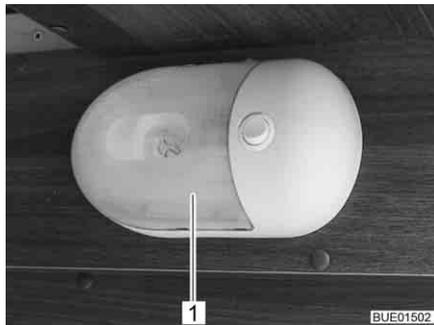

Fig. 302 Garage light
- Carefully push the transparent cover (Fig. 302,1) together from both sides, pull it lightly from the switch and pull it off forwards.